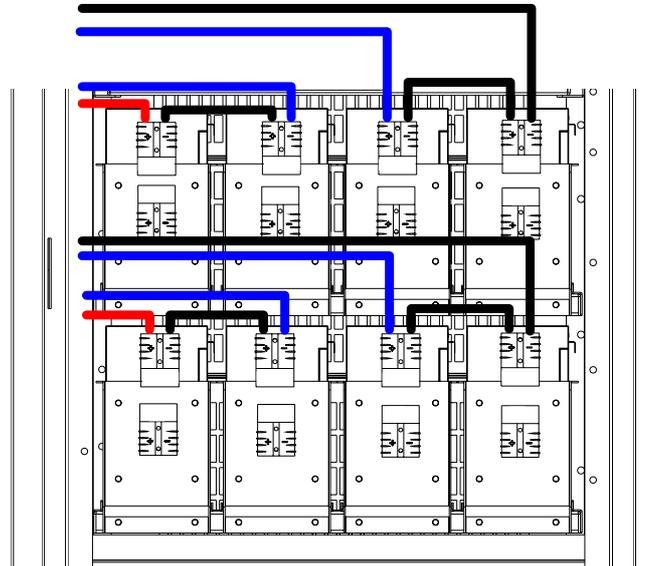

Figure 2.15 Connecting Diagram of Battery Pack
5) Measure whether the voltage of every battery pack is normal, then measure whether the side lead terminal is short-circuit ,if all of them is normal, connect the battery pack with UPS according to the connecting method shown in following figure 2.15
| 3) Cut off the connecting line of battery pack (as shown in Figure 2.15).       | 1 | 2 |